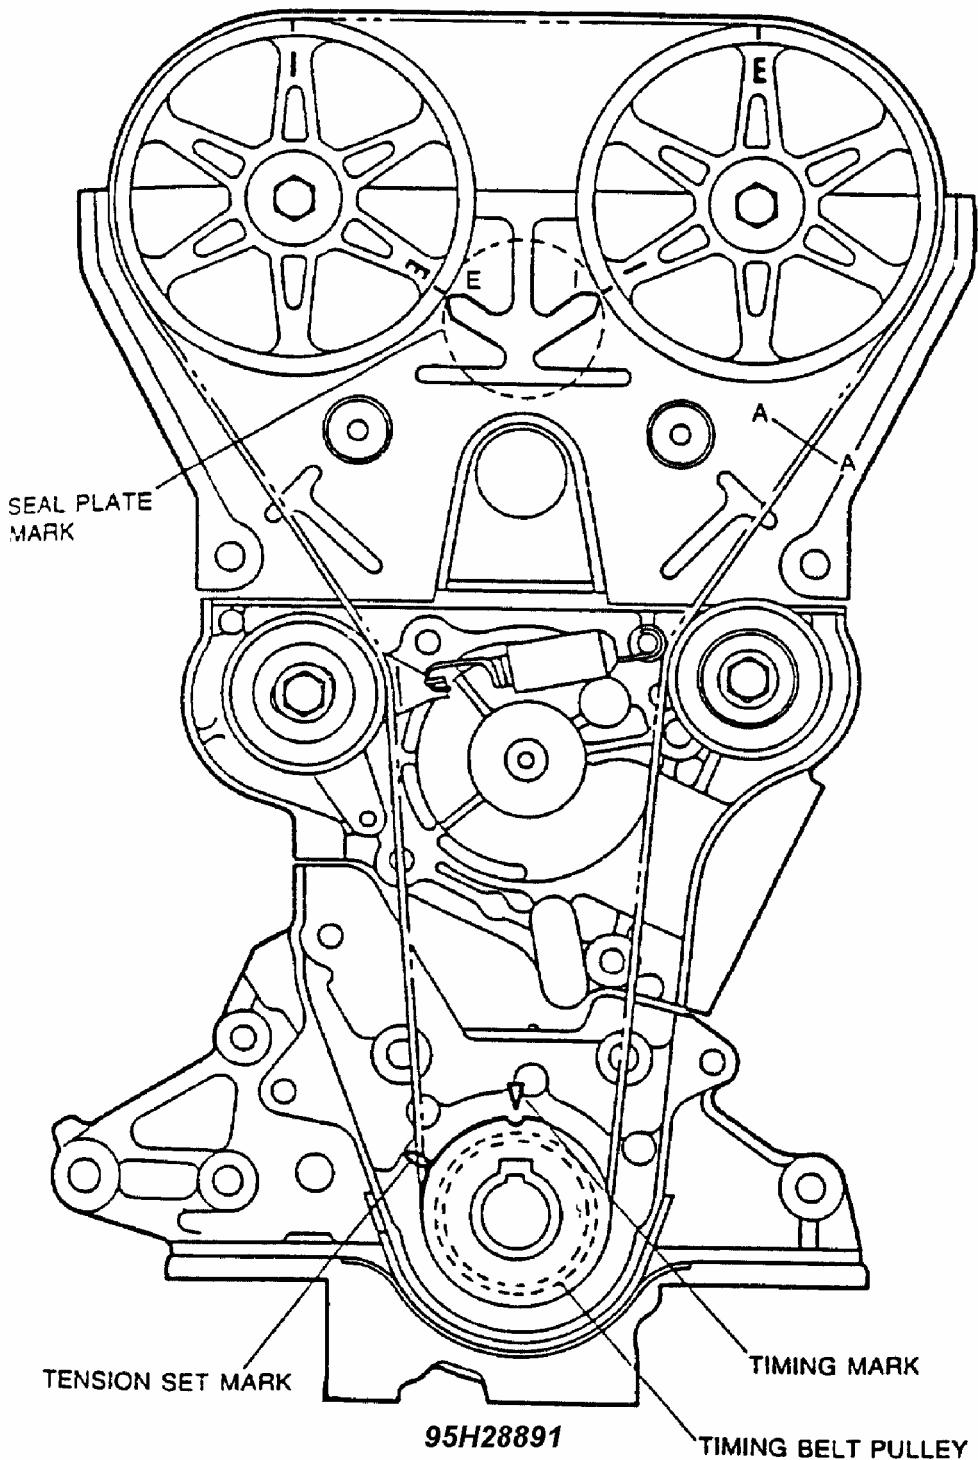
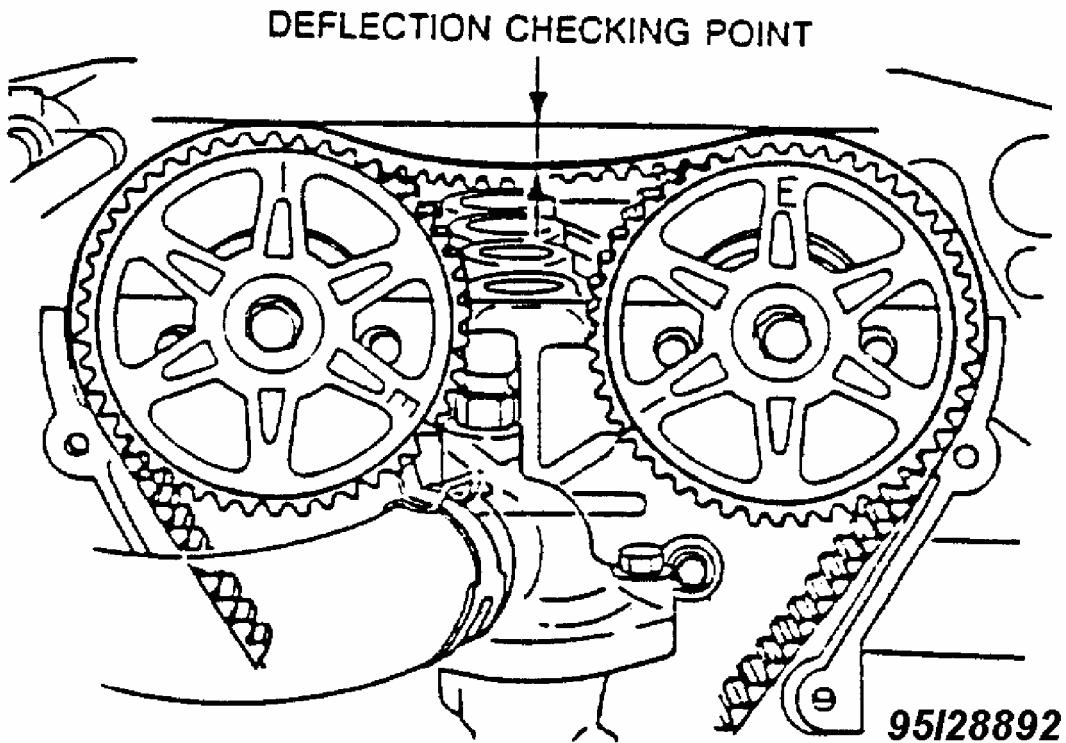

Fig. 6: Aligning Camshaft Timing Marks
Fig. 7: Measuring Timing Belt Deflection
3. Remove timing belt cover(s). If timing belt is to be reused, mark timing belt rotation direction. Align timing marks on camshaft sprocket(s). See Fig. 6 and Fig. 7. Loosen timing belt tensioner lock bolt. Temporarily secure tensioner away from belt with spring fully expanded. Remove timing belt.
1. Position notch on crankshaft sprocket to 12 o'clock position (aligned with mark on oil pump). Align timing marks on camshaft sprocket(s). See Fig. 6 and Fig. 7. Ensure crankshaft timing mark is at TDC. Install belt around crankshaft sprocket. Keeping belt pulled tight on right side (facing engine), route belt around camshaft sprocket(s).